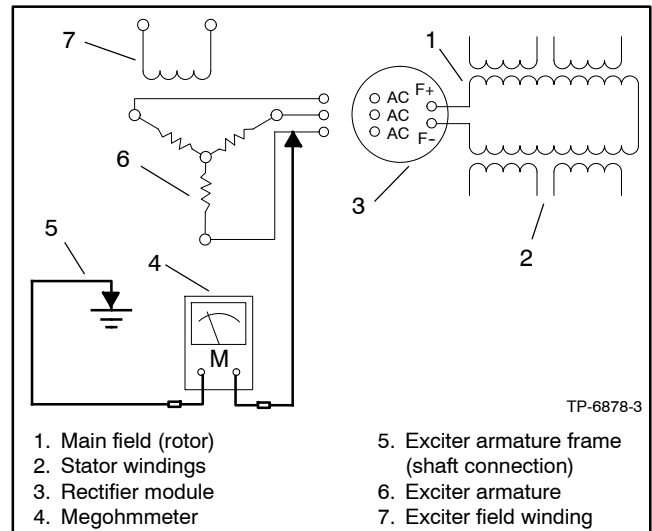

Figure 3-6 Megohmmeter Connections on Exciter Armature
4. Check the exciter armature winding for a short-to-ground condition. Use a megohmmeter to apply 500 volts DC to either armature lead and the exciter armature frame. Follow the megohmmeter manufacturer's instructions for using the megohmmeter. See Figure 3-6.